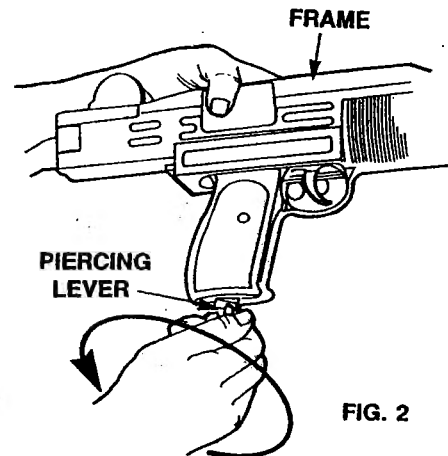

FIG. 2
- With one hand hold the pistol by the frame. With the other hand, turn the piercing lever counterclockwise until it stops turning. (Fig. 2)